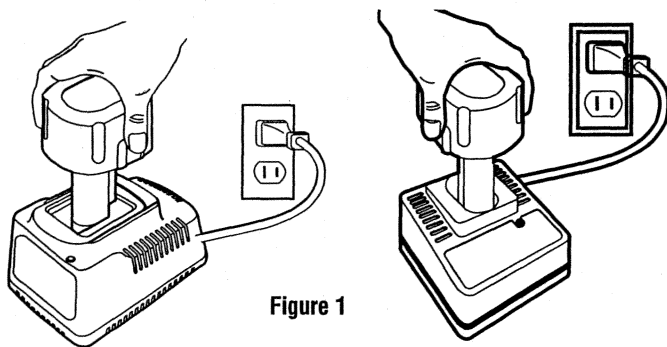

Figure 1
These chargers require no adjustment and are designed to be as easy as possible to operate. Simply place your battery pack into the receptacle of a plugged in charger (FIG. 1) and it will automatically charge the pack.
2. Insert the battery pack into the charger, as shown in FIG. 1, making sure the pack is fully seated in the charger. The red (charging) light will blink continuously indicating that the charging process has started.
2. Insert the battery pack into the charger, as shown in FIG. 1, making sure the pack is fully seated in the charger. The red light will blink and the charger will beep once indicating the charging process has started.
2. Insert the battery pack into the charger, as shown in FIG. 1, making sure the pack is fully seated in the charger. The red (charging) light